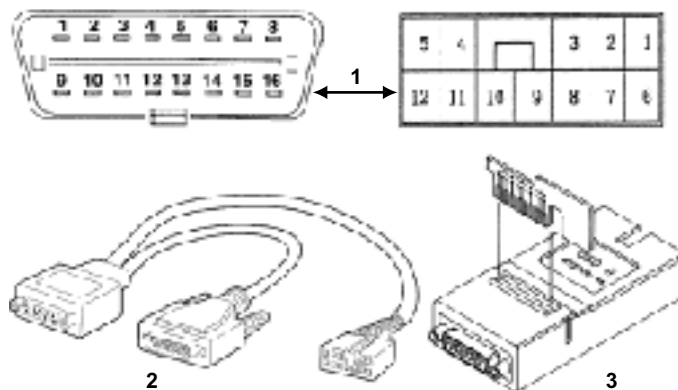

Figure 5-5 Connectors and adapters for most OBD-II vehicles
- Figure 5-5—Codes for most OBD-II vehicles with 12-pin and 16-pin connectors